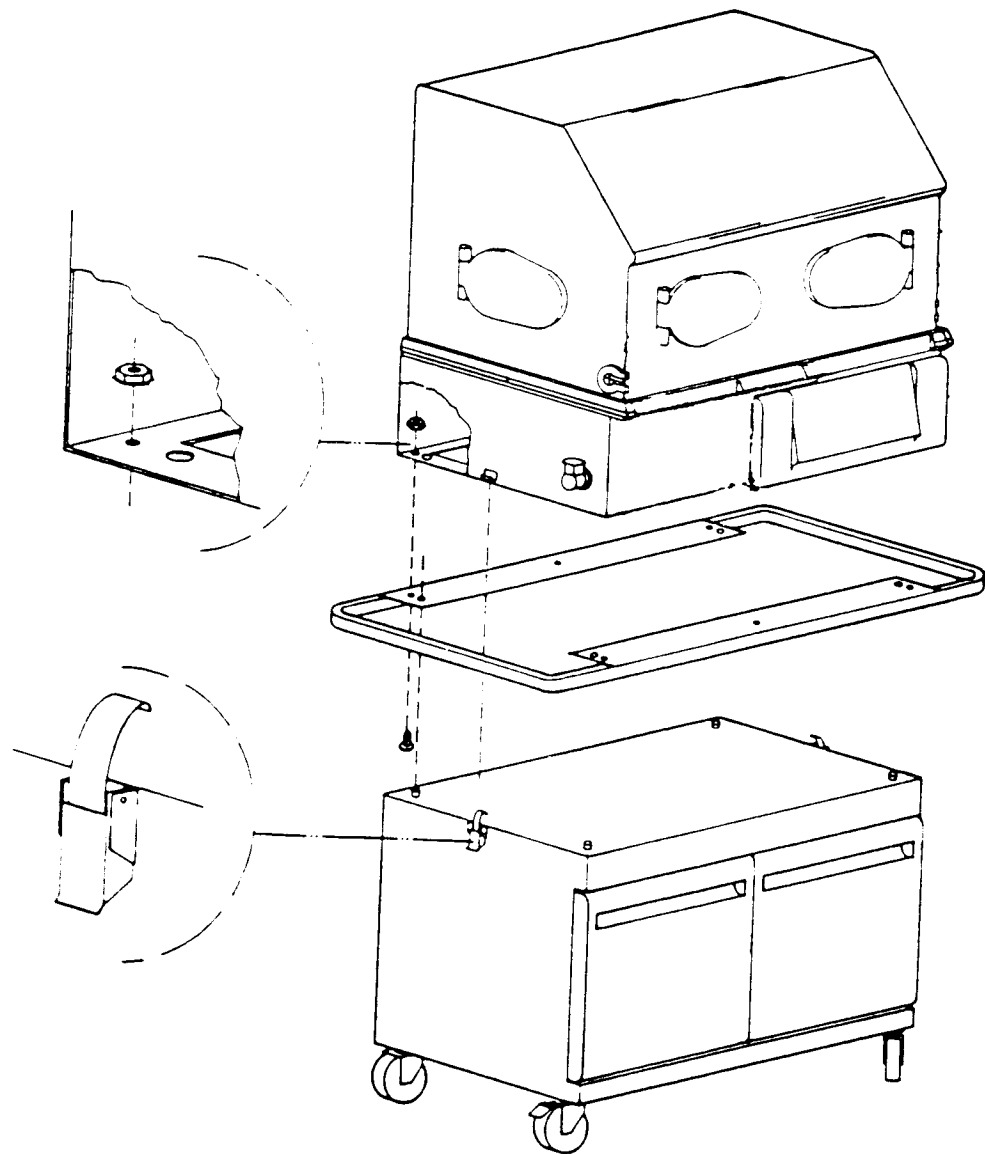

FIGURE 2.1 ASSEMBLY, INCUBATOR MOUNTED ON STANDARD CABINET STAND
A. REMOVE THE CONTROLLER FROM THE INCUBATOR. Attach the Guard Rail to the underside of the Base Assembly using the 6 No. 10 – 32 x 1/2" Screws and Keps nuts supplied (see Figure 2.1). Replace the Controller.
B. PLACE THE GUARD RAIL AND BASE ASSEMBLY ON THE CABINET STAND as shown in Figure 2.1.
C. SECURE THE HOOD/BASE ASSEMBLY TO THE CABINET STAND using the clamp on each side of the Cabinet Stand. Adjust threaded clamp on stand for positive latching. Locking bar should be approximately horizontal when clamp is engaged in retainer. Lock clamp by rotating locking bar to vertical position (see Figure 2.1).